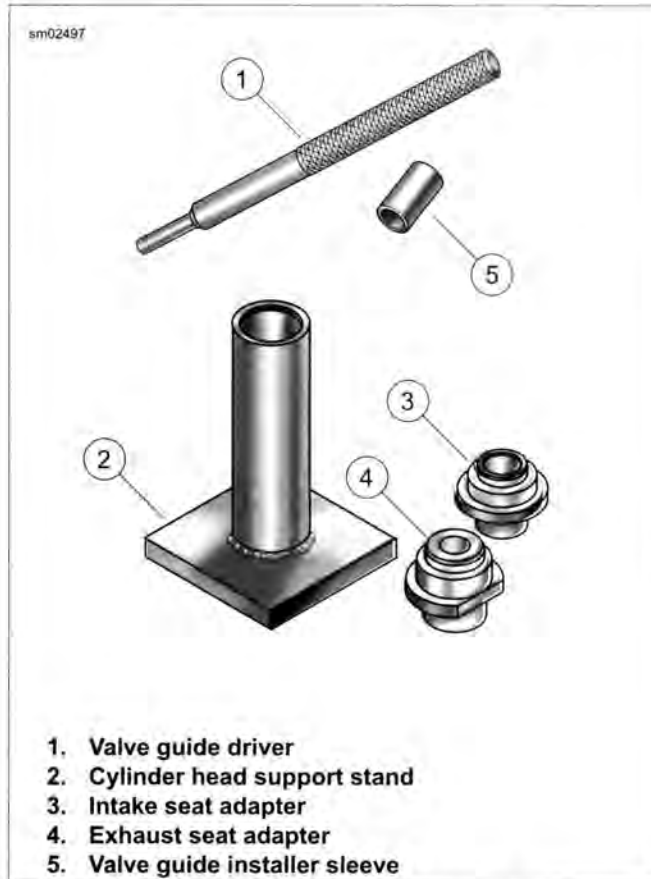

Figure 3-37. Valve Guide Replacement Tools
1. See Figure 3-37. Prepare cylinder head for valve guide replacement.
- b. Insert sleeve of appropriate seat adapter (3 or 4) into tube at top of support stand (2).
- a. See Figure 3-37. Insert sleeve of the appropriate seat adapter (3 or 4) into tube at top of support stand (2). Position cylinder head with valve seat centered on seat adapter.